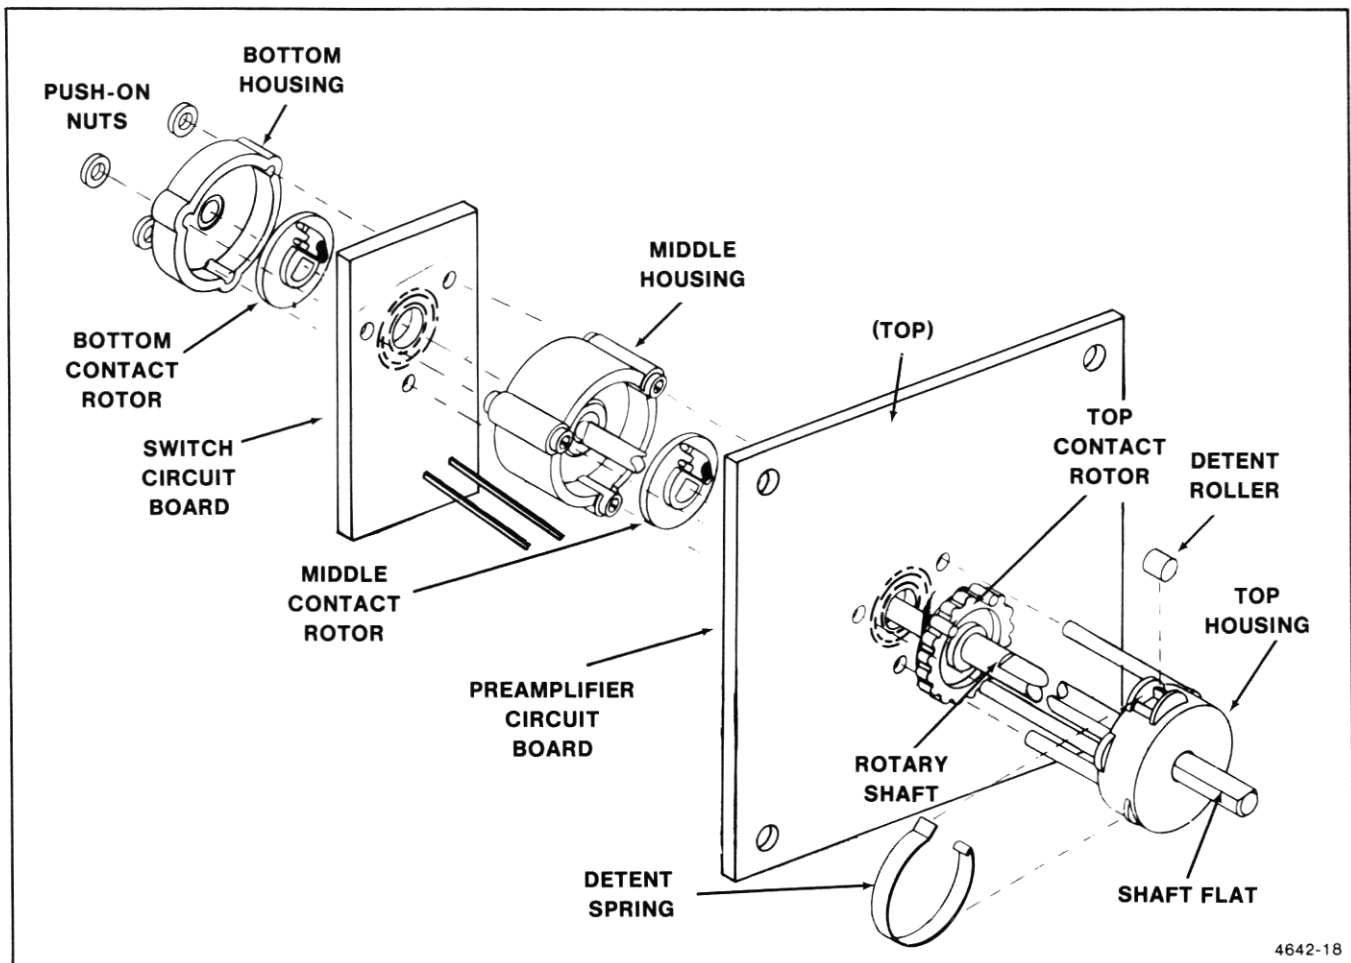

Figure 6-5. Preamplifier rotary switch assembly.
4. Use diagonal cutters (WITH CAUTION TO AVOID CUTTING OFF THE SWITCH MOUNTING POST), or a similar tool to carefully pry off the three plastic push-on nuts which hold the Bottom Housing to the Switch Circuit Board (Figure 6-5).